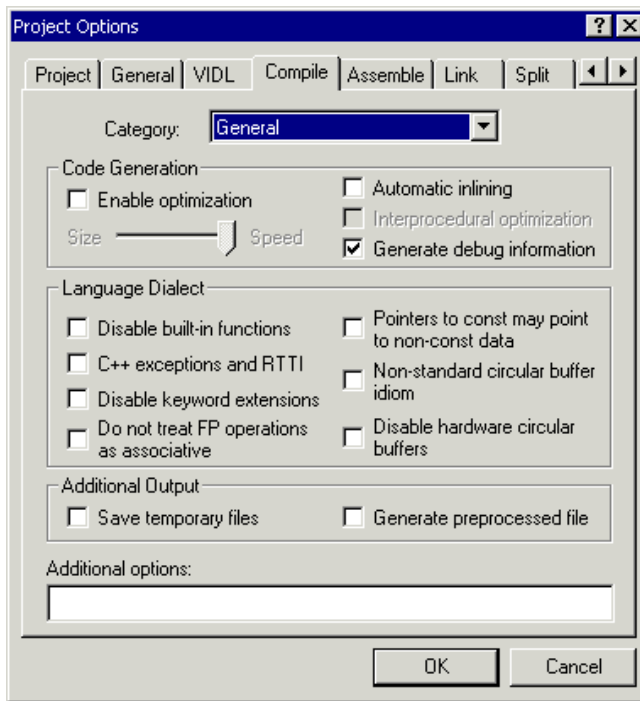

Figure 2-12. Project Options Dialog Box: Compile Page
7. Click the **Compile** tab to display the **Compile** page, shown in Figure 2-12.